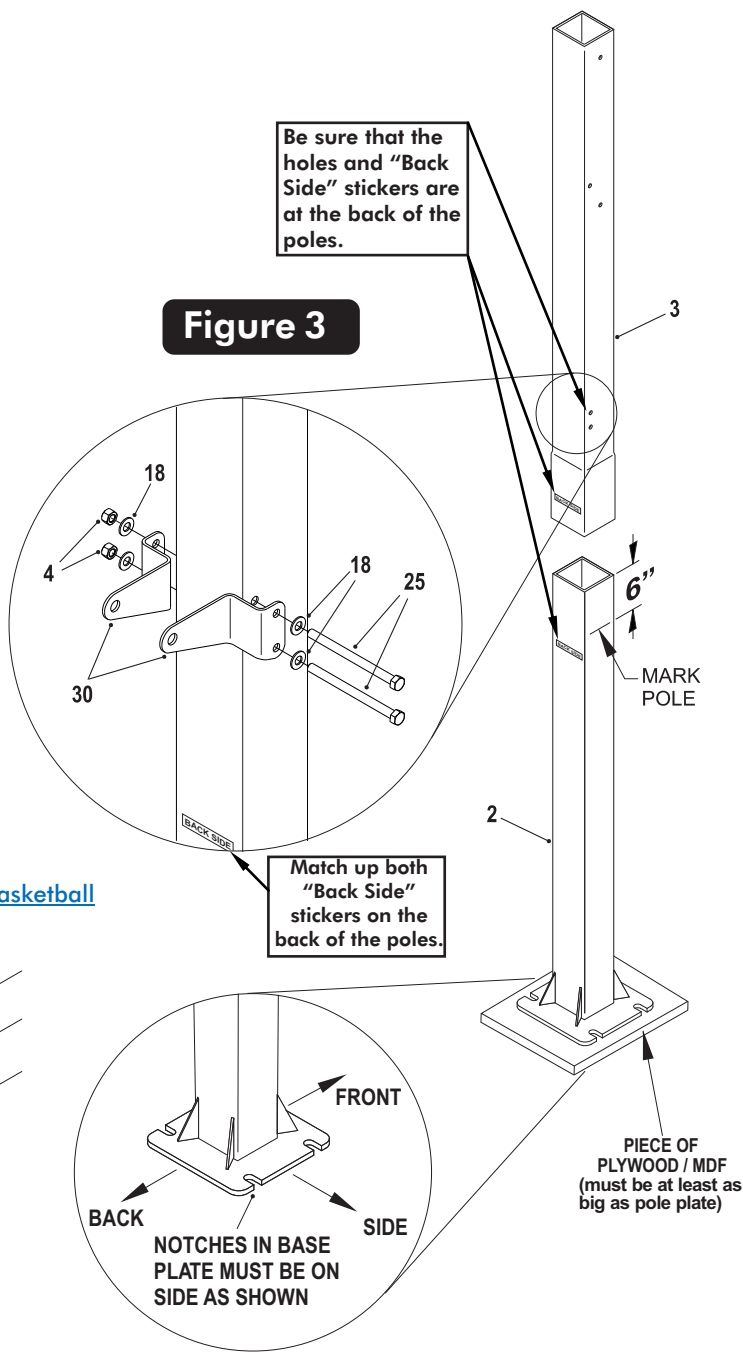

Figure 3
- Before putting any of the poles tubes together, mark bottom pole (#2) 6 inches from the top end. **Be sure that the holes and "Back Side" stickers are at the back of the pole.** See Figure 3.
- Align the upper pole (#3) with the bottom pole (#2) as shown in **Figure 3** and slide them together. Stand poles up on a piece of MDF or plywood, **lift poles up by bottom pole** below the 6" mark you made and slam down the bottom pole as many times as needed on a piece of MDF or plywood **until the bottom of the upper pole reaches the 6" mark** on the bottom pole. This is a friction-locking joint and requires no hardware.
- Attach Post Ears (#30) to holes near the bottom of Top Post (#3) using two hex bolts (#25) four washers (#18) and two lock nuts (#4). See Figure 3.